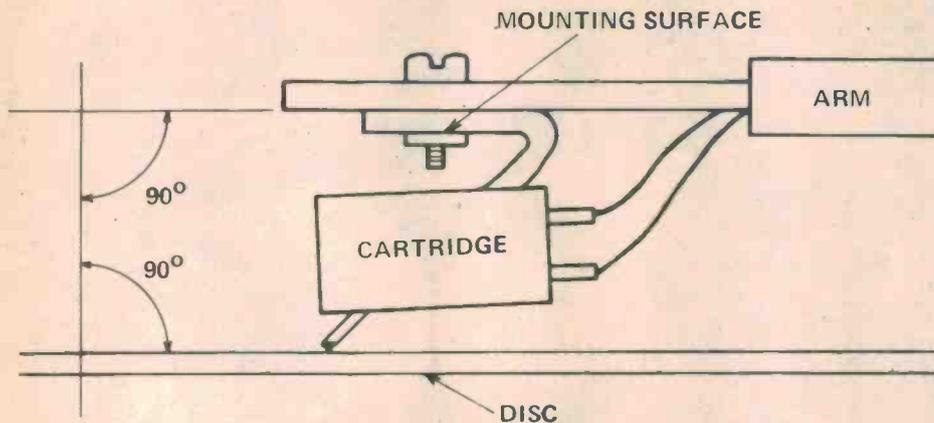

Fig. 2. The cartridge's vertical tracking angle is initially set as shown.
STEP 2: Refer Fig. 2. Set the vertical tracking angle of the cartridge by using the *mounting platform of the cartridge* as the guide, not the arm. This may be changed later but level the cartridge for the present. ▶